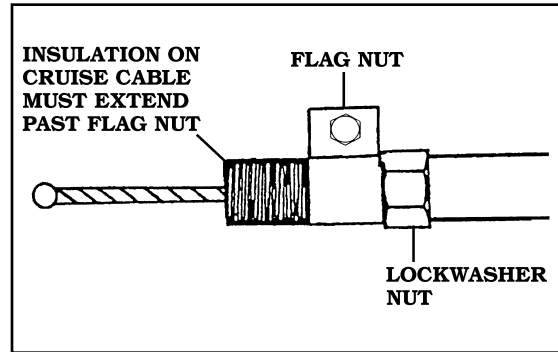

FIGURE 28
2. AFTER THE THREADS HAVE BEEN FORMED, SCREW THE **FLAG NUT** ONTO THE **CRUISE CABLE**. **FIGURE 28**